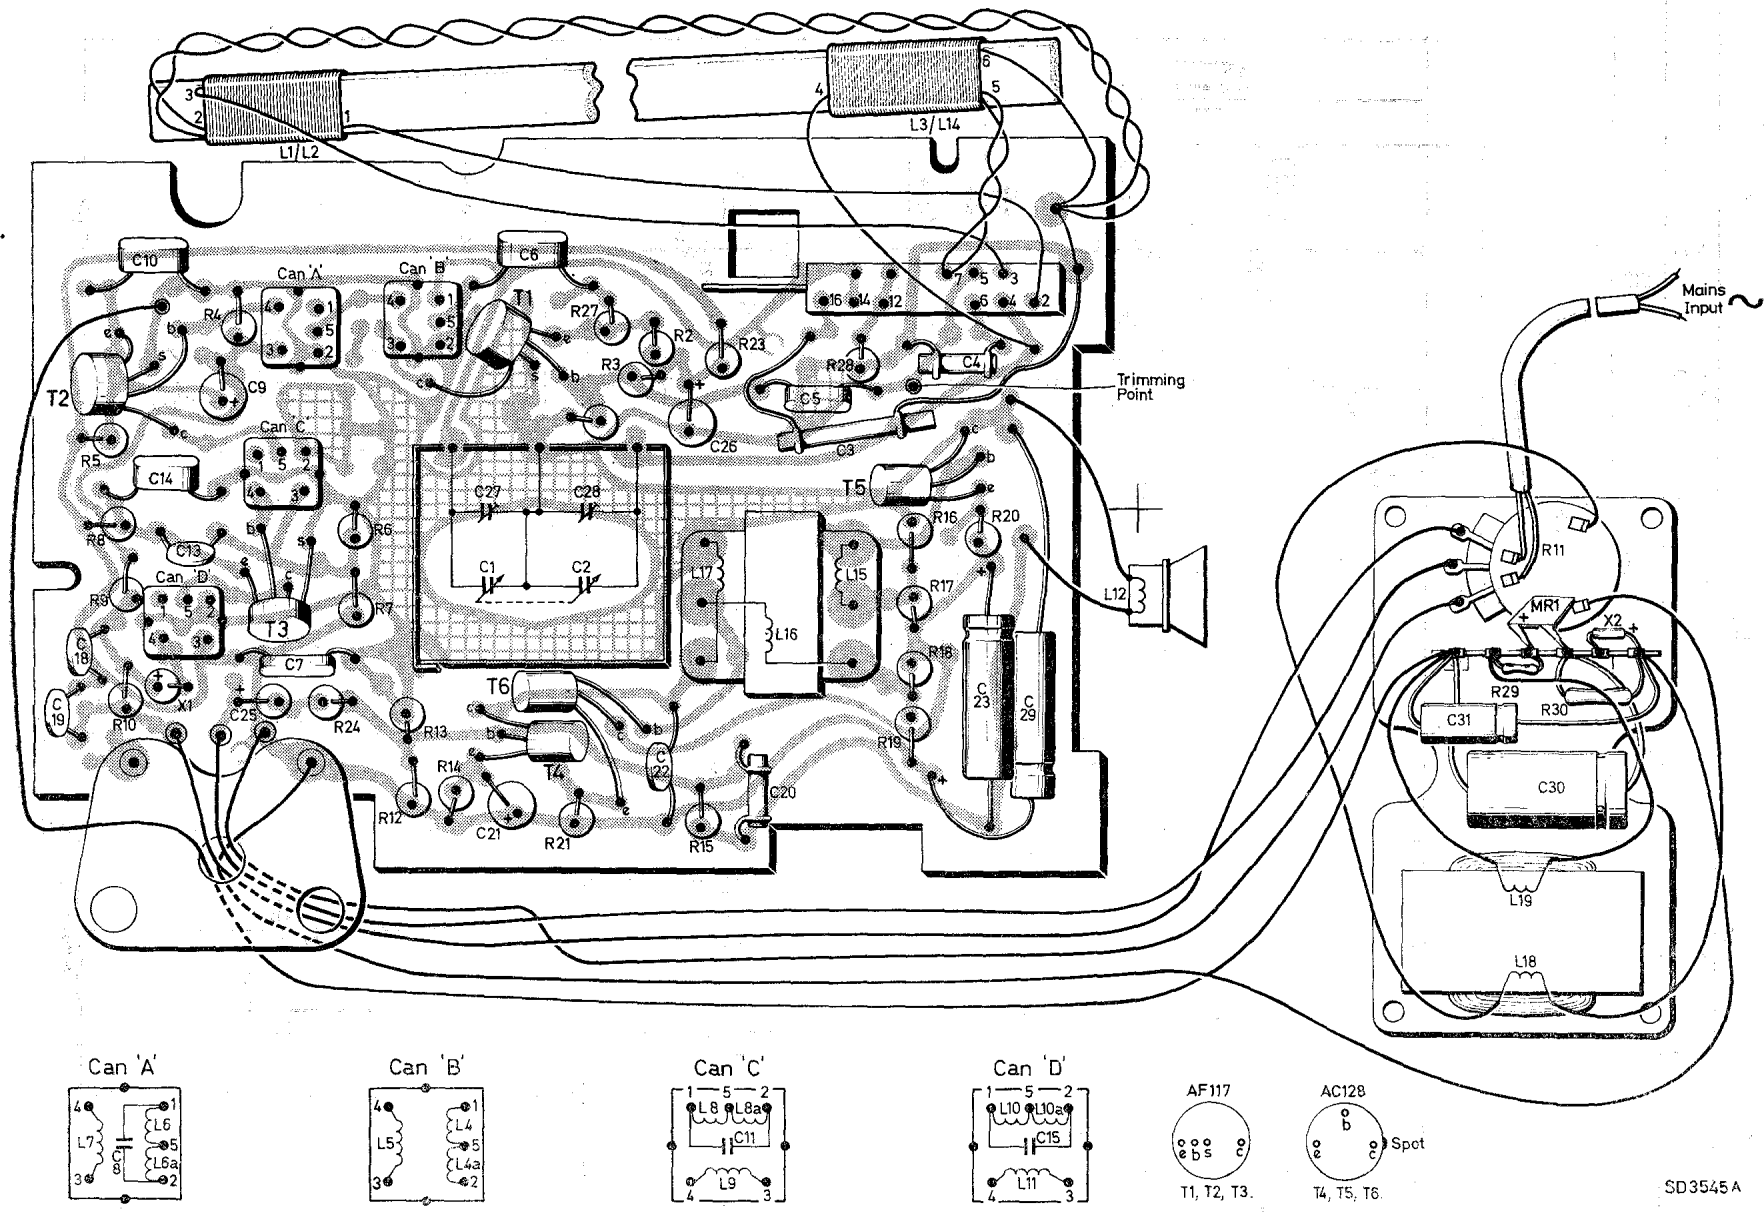

Fig. 4 PRINTED PANEL and WIRING DIAGRAM
2. Apply a signal of 470kHz to the trimming point provided (see Fig. 4) via a 470KpF capacitor.
1. Connect the generator to the trimming point provided (see Fig. 4) via a 470KpF capacitor.